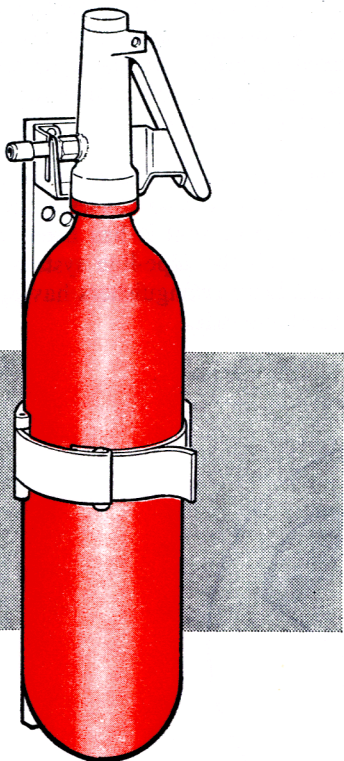

Fig 14. Aircraft extinguisher hand operated (BCF)
26. The type of extinguisher currently installed in aircraft contains BCF. This extinguisher is operated with one hand simply by gripping the headpiece and squeezing the trigger lever. This action releases a powerful jet of vaporizing liquid that can be stopped at will by releasing the lever. This trigger action also causes an indicator pin to pierce the metal cap on the cylinder headpiece to show that the contents of the cylinder have been partially or wholly discharged. Fig 14 shows the extinguisher in its stowage bracket which not only secures the extinguisher but also prevents its accidental operation. For speedy recognition the extinguisher container is coloured RED.